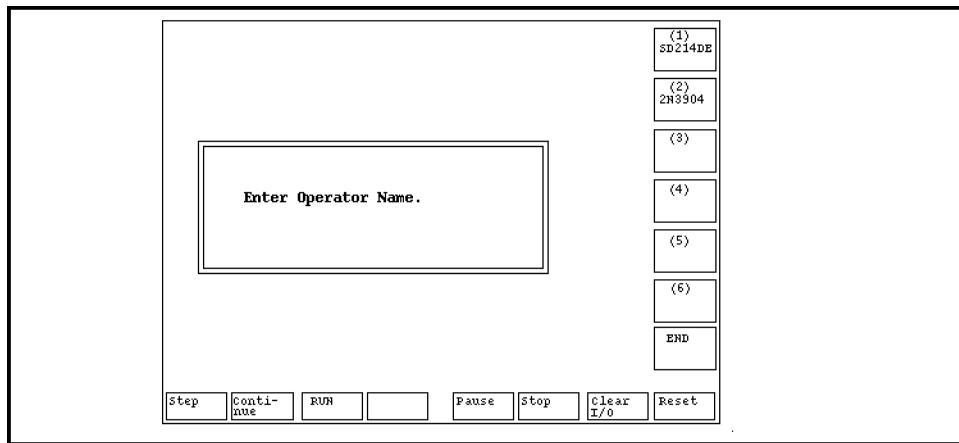

Figure 3-2. Operator Name Input Screen
4. You are required to enter supplemental information, such as “Operator name”, as shown in Figure 3-2.